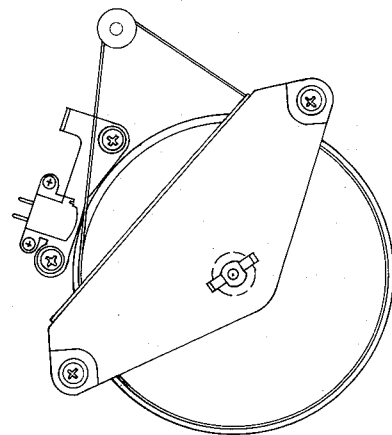

Figure 36.
3. Put a 0.13-mm spacer between the FG head and the flywheel, and push it slightly by a hand. (See the figure 36.)